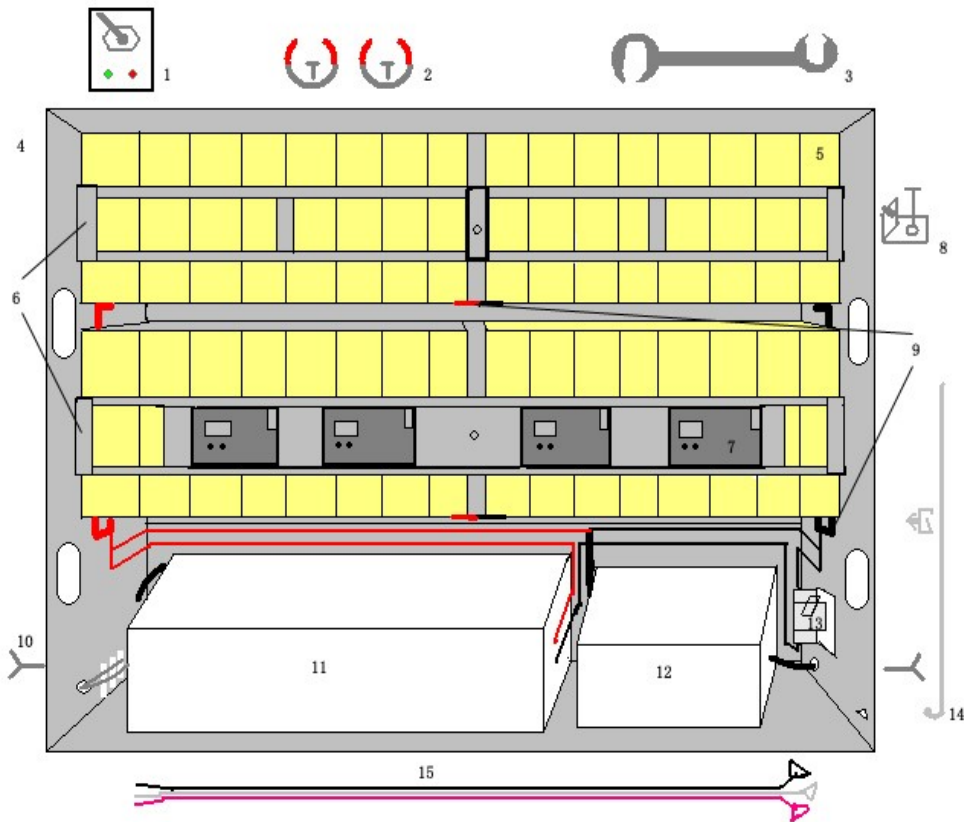

Figure 1: Component Layout
9. Wiring Check: ①Make sure circuit breaker is in the OFF position,, Anderson plugs from charger and converter are disconnected, balancers' interfaces are pulled off; ②charger and converter connections are connected firmly; ③Connection between black wires from converter and circuit breaker is connected firmly; ④Connection between circuit breaker and another black wire is connected firmly. ⑤positive and negative of each group of batteries are connected firmly (16 cells in series, two 16 cell packs in parallel shown in FIG1) , terminal plastic covers are in position.